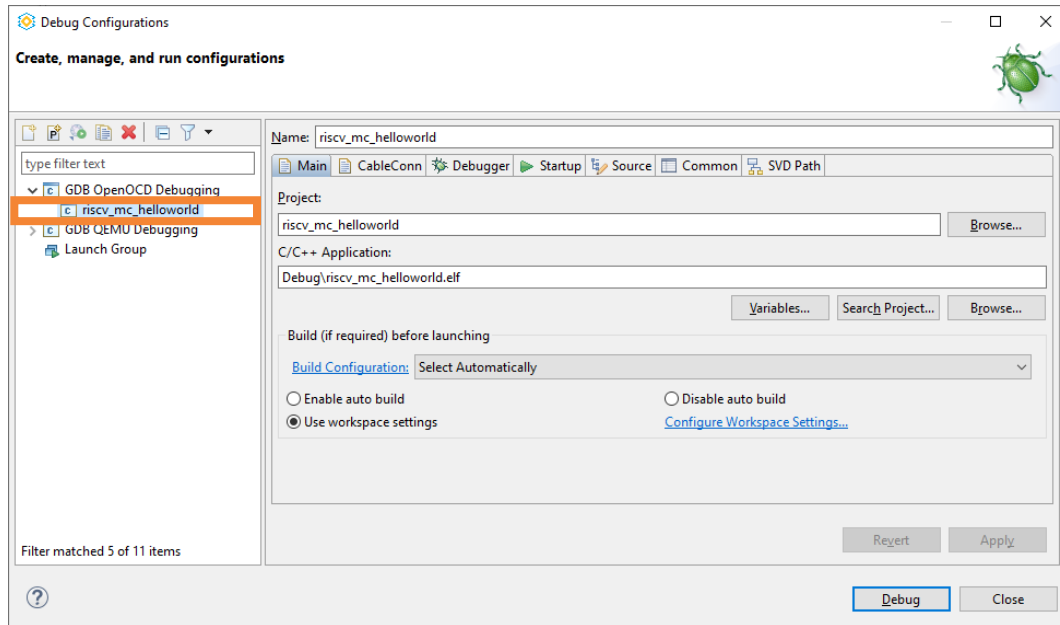

Figure 6.18. Debug Configurations Dialog 2
- Choose riscv_mc_helloworld item (Figure 6.18).